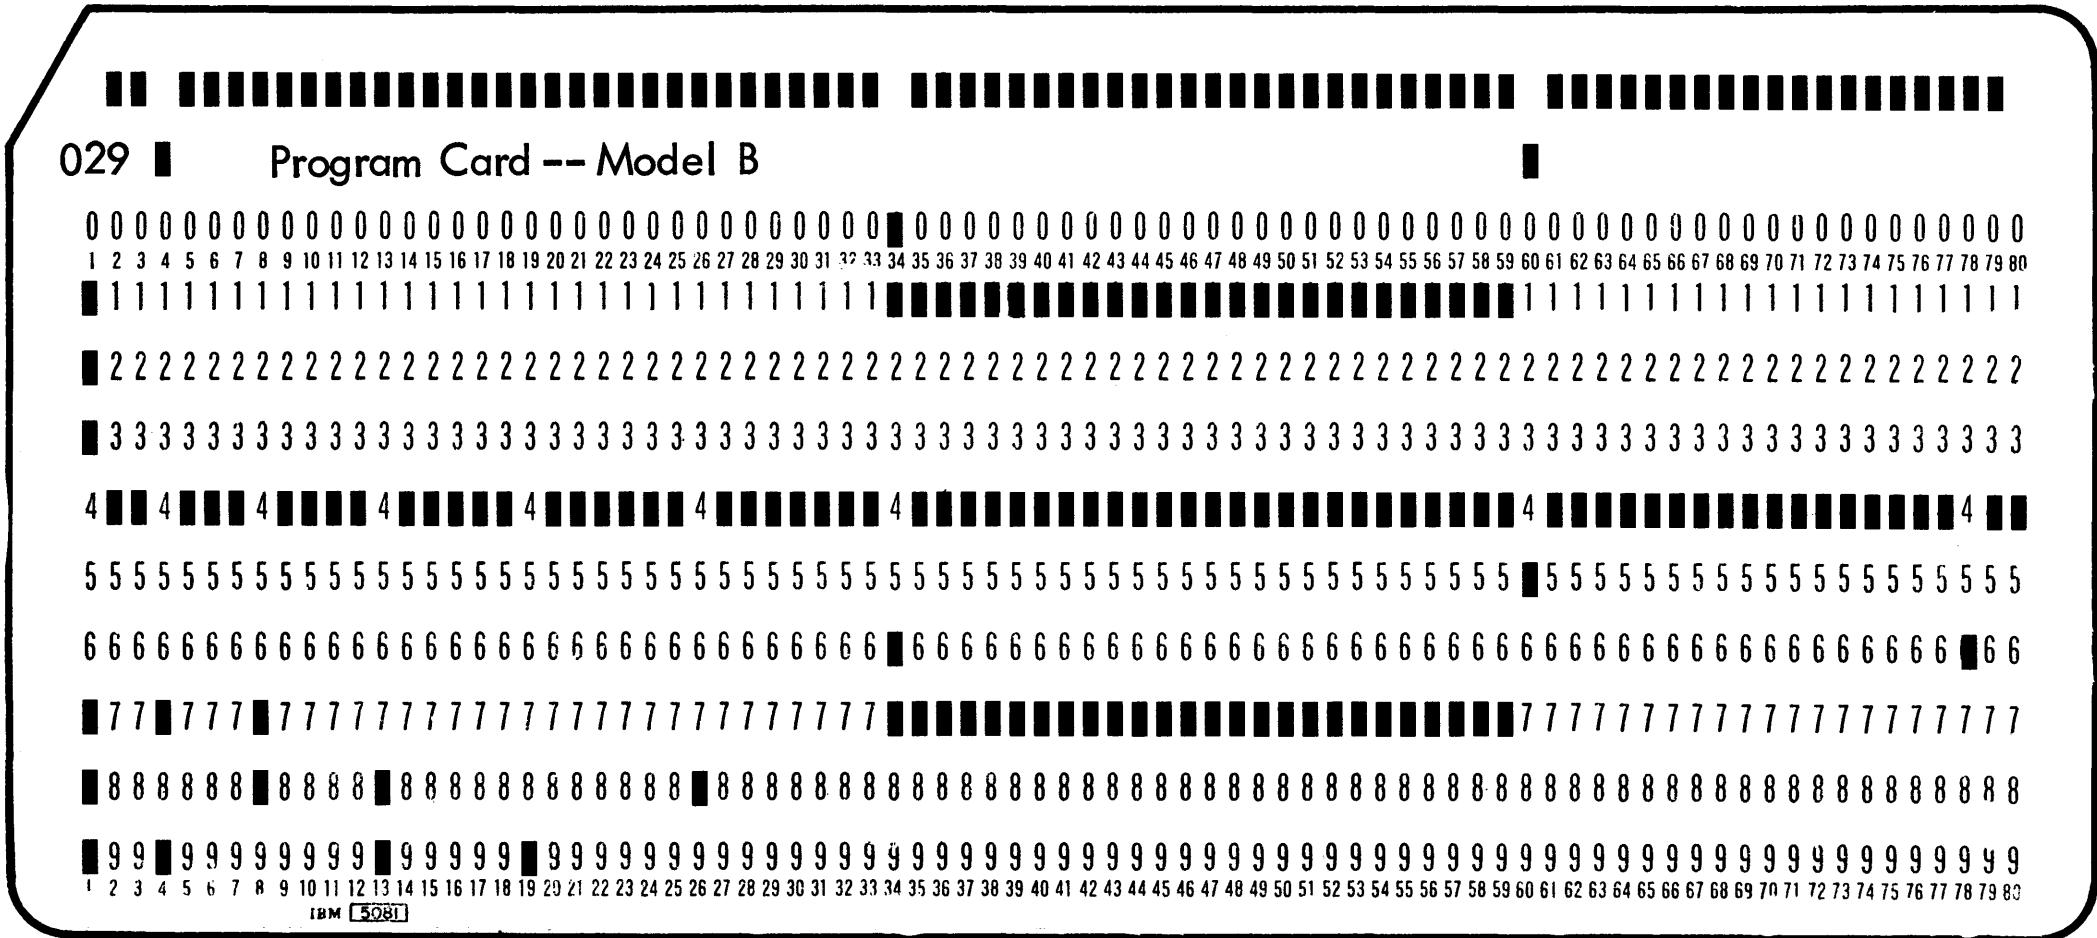

Figure 2-2. Program Card—Model B
2. Install Model B program card (Figure 2-2) on drum, install drum in machine, and lower starwheels.